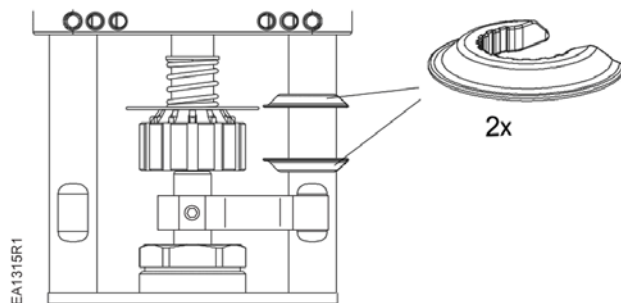

Figure 12. Stroke Indicators (Included).
- After calibration is complete, the two stroke indicator clips can be attached to the actuator arms. See Figure 12.